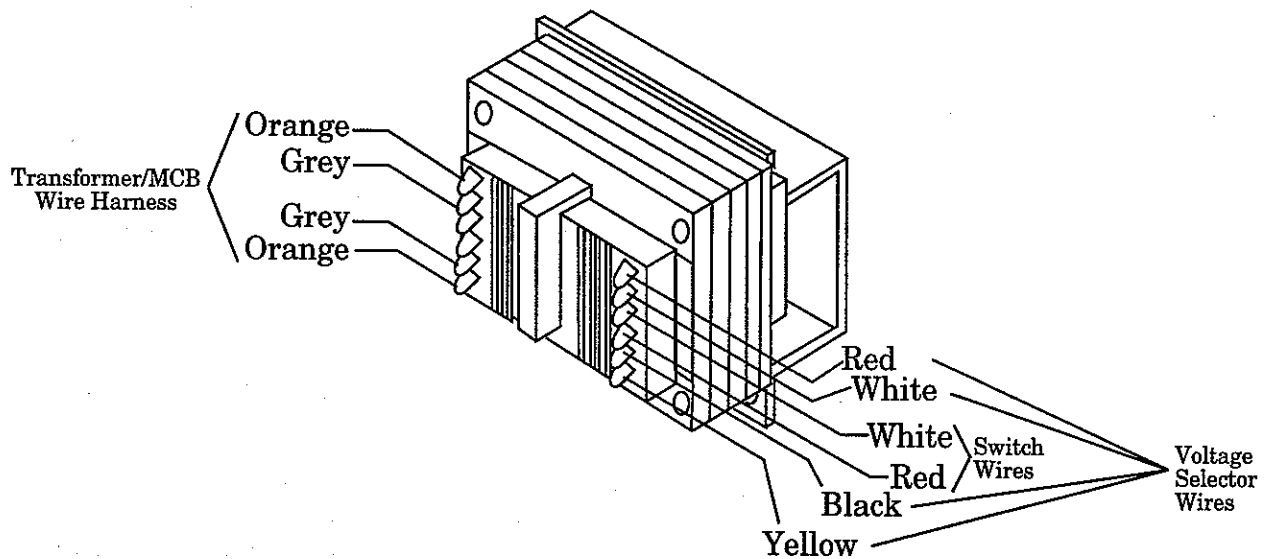

Figure 6-12
- Step 2 Connect the wire plugs to the terminal, being careful to connect the plugs to the same terminals as on the original transformer. See Figure 6-12.